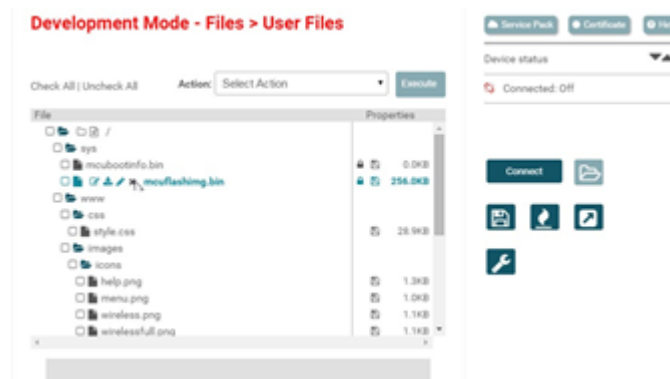

Figure 40. Deleting Application Binary
7. Browse and see all files under Files → User Files on the left-side navigation tree. It is good practice if mcuimg.bin for the CC3220S device or mcuflashing.bin for the CC3220SF device is deleted from the project (a backup resides in the original zipped project). This step ensures that the programmed application binary is not executed and that the code downloaded through CCS is executed (see Figure 40).